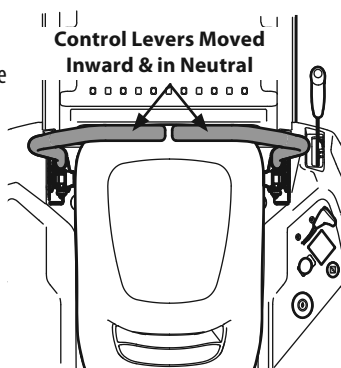

Figure 20
2. Move the RH and LH lapbar drive control levers inward in the neutral position which also disengages the parking brake. Refer to Figure 20.